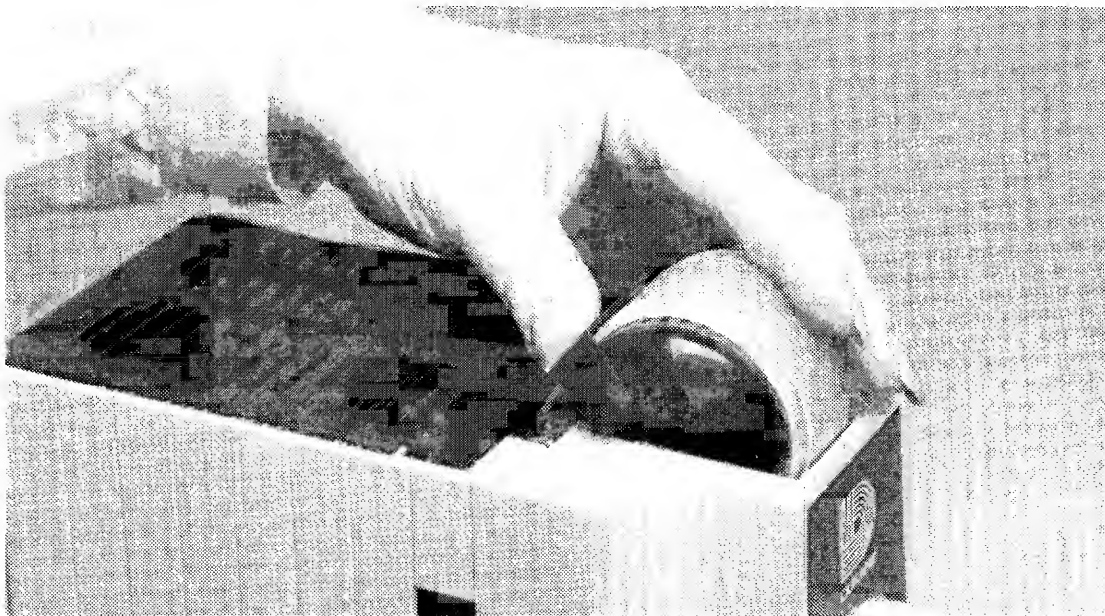

FIGURE 4
4. Adjust the framing by turning the framing knob on the side of the unit until the complete frame is visible. Rotate the focus knob to create a sharp, clear image on the screen. Flip the film spring forward so that the filmstrip coil drops into the film cup (Figure 4).